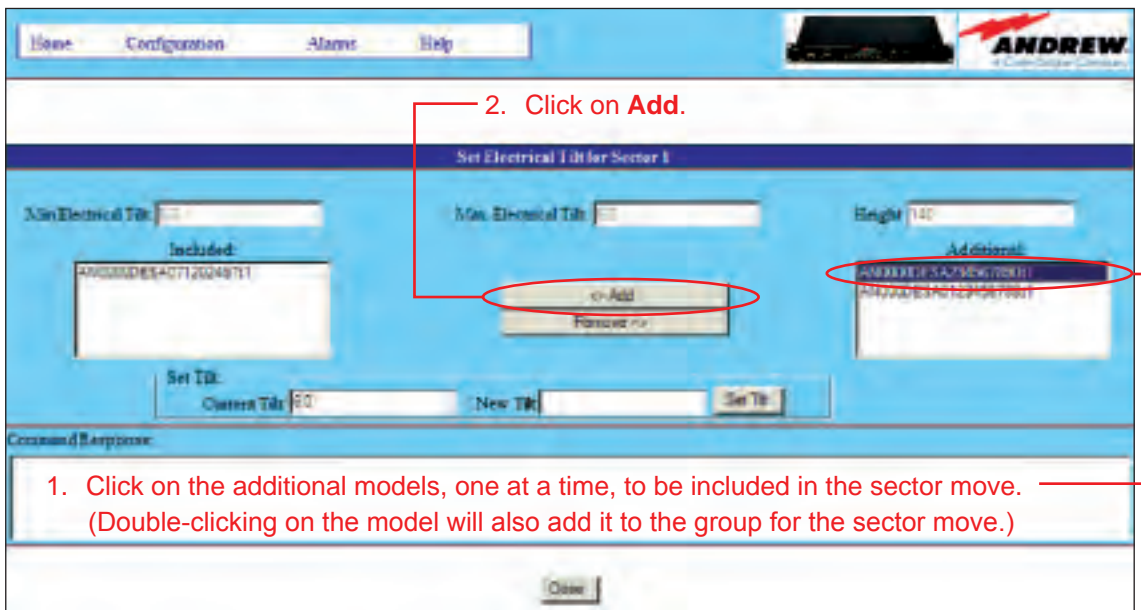

Figure 17-2. Adding Models To Be Included In The Sector Move.
Notice that the device that was selected to be included in the sector move is highlighted and displayed in the **Included** box. This box displays a list of all devices that will be included in the sector move. Initially, this box contains only the antenna that was selected from the controller's main interface screen. All of the configuration settings for this device, including its current tilt, are displayed on this screen (Figure 17-2).
3. Select the device, and click on **Add** (Figure 17-2). (Alternately, double-click on the device from the **Additional** box to move the device to the **Included** box.)